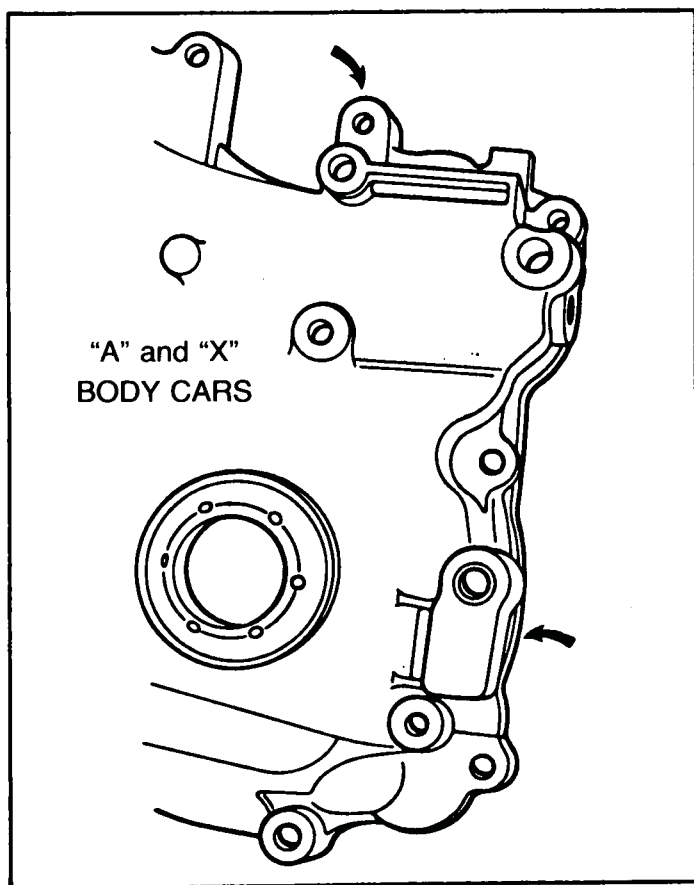

Figure 50
- 1) Part number 8653968 has "Two" stands on top of the case cover that are drilled and tapped, and the mount area on the side of the case cover is machined off at 90 degrees to the axle centerline. Refer to Figure 50. This case cover fits "A" and "X" body cars.